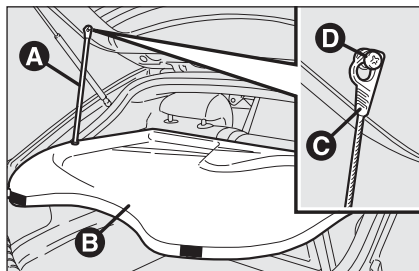

fig. 74
- ☐ release both rod ends **A**-**fig. 74** supporting the rear parcel shelf **B** by removing the eyelets **C** from pins **D**;